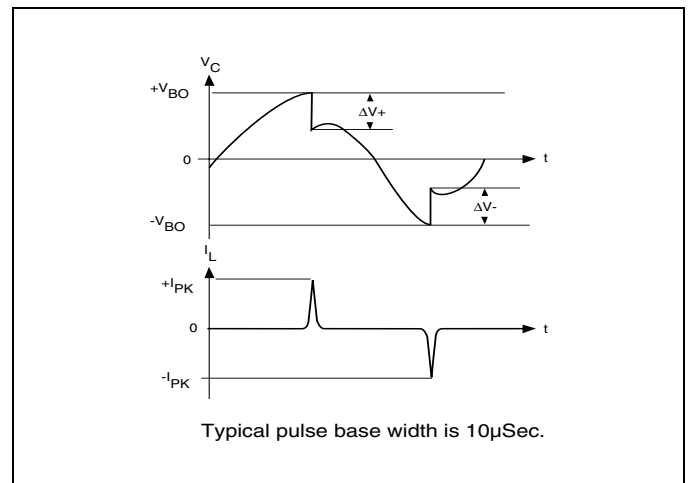
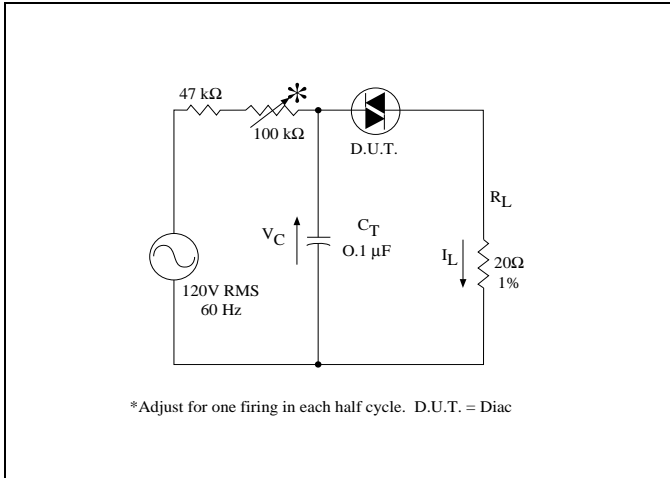

Figure 8.4 Test Circuit Waveforms (See Figure 8.5.)
Figure 8.5 Circuit Used to Measure Diac Characteristics (See Figure 8.4.)
- (1) Breakover Voltage symmetry as close as 1.0V is available from factory on these products.
- (2) See Figures 8.4 and 8.5 for Test Circuit and waveforms.
- (3) Typical switching time is 900 nano-seconds measured at I_{PK} (see Figure 8.4) across a 20Ω resistor (see Figure 8.5). Switching time defined as rise time of I_{PK} between the 10% to 90% points.